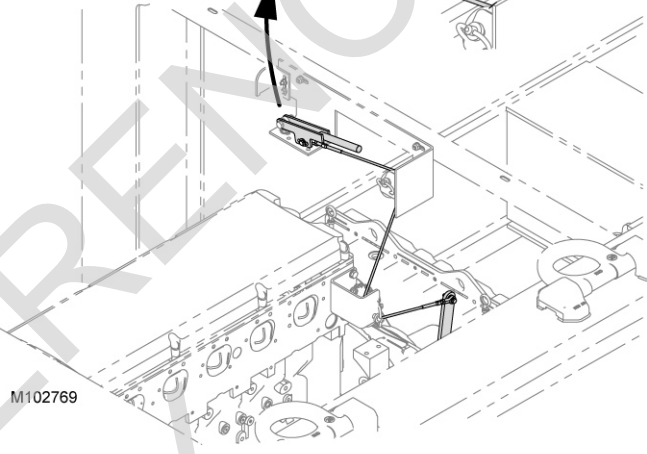

Figure 3-13. Engine Clutch Lever
- If necessary in cold weather, or at elevations of 1676 m (5500 ft) above sea level or higher, disengage the engine clutch as shown in Figure 3-13. This step will disconnect the pumps from the engine and aid in cold weather startup or high elevation.